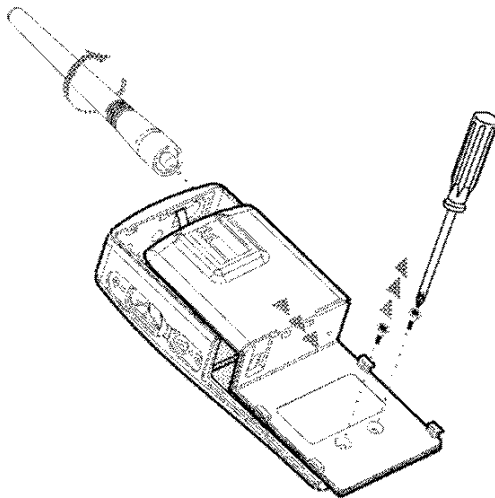

Figure 3-3 • Remove Radio Chassis
- a. Remove the antenna. The antenna screws off counter-clockwise (Figure 3-3).
- b. Remove the two screws at the back of the chassis (Figure 3-3).
- c. Slide the chassis downwards a little and lift it away from the front housing (Figure 3-3).